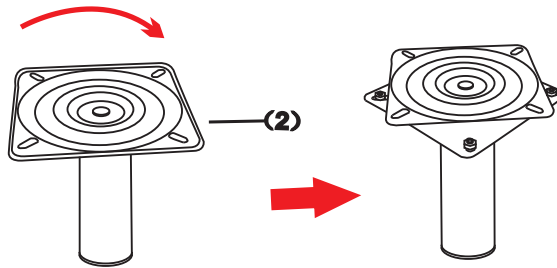

Fig 1.
Remove and unpack the parts (2), rotate the metal plate. See Fig 1.